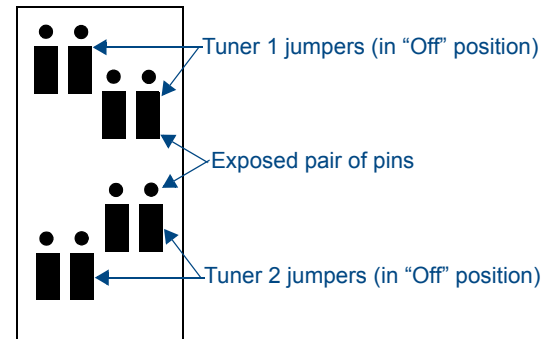

FIG. 8 Jumper Configuration - No Tuner installed
4. Place all jumpers in the "Off" position (FIG. 8).